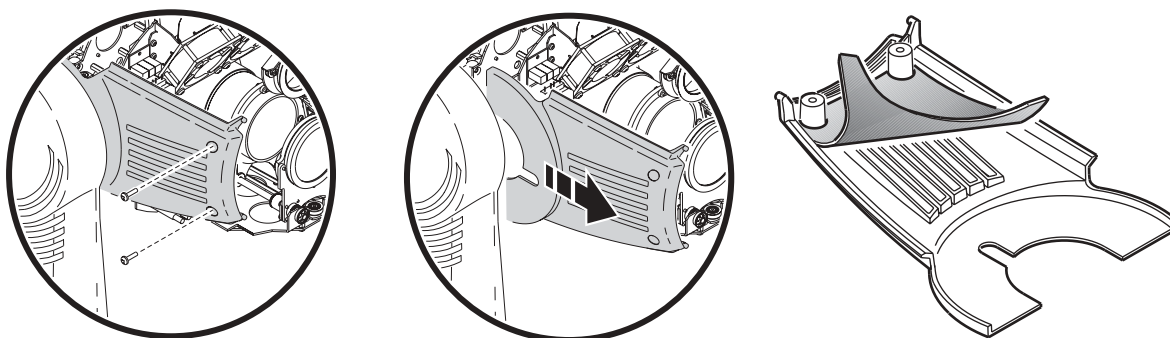

Figure 21: Air filter replacement
6. On each side of the head, remove the 2 screws that hold the side covers. Slide the covers forward to remove. Clean the air filters or replace them. If they are saturated with smoke fluid, etcetera, soak them in warm soapy water and blot dry. Position the filters on the side covers and reinstall. See Figure 21.